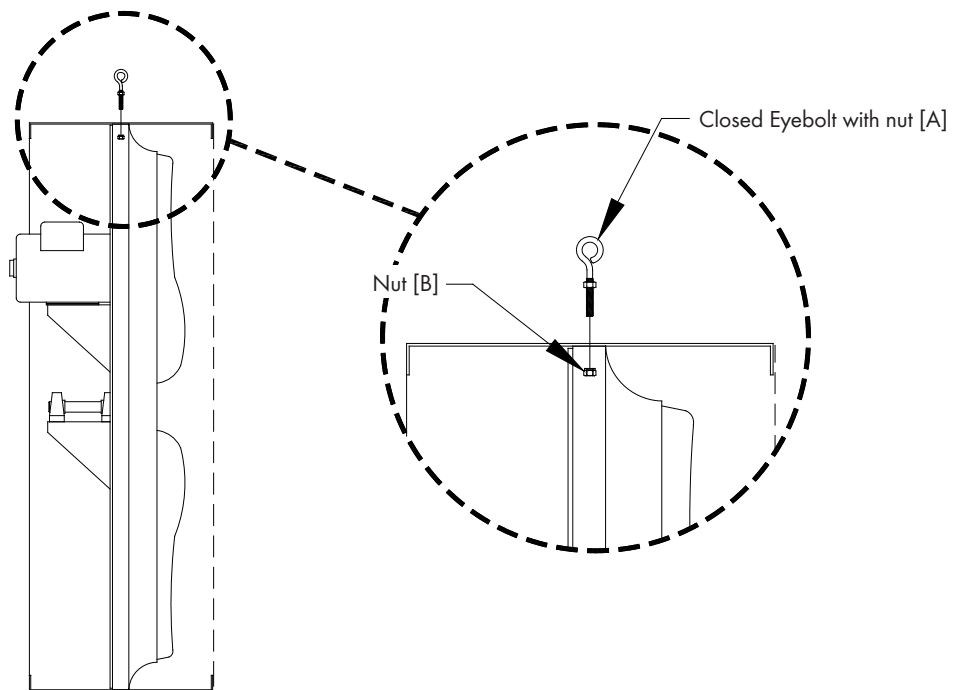

Figure 1
Remove rear guard and install (2) Eyebolts [A] and Nuts [B] (provided for 'M' fan). See Figure 1.